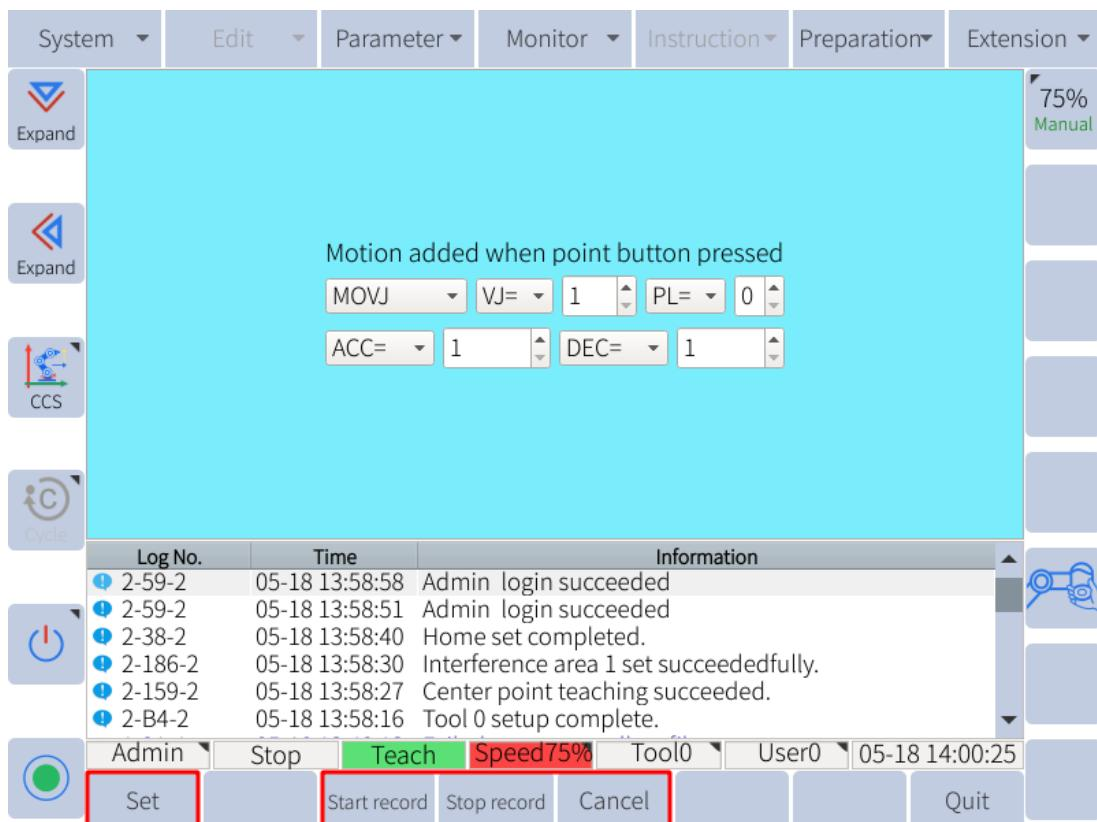

Figure 6-81 : Drag to mark
1. Select **Extension -> Flange IO -> Drag setting**, as shown in **Figure 6-81**.